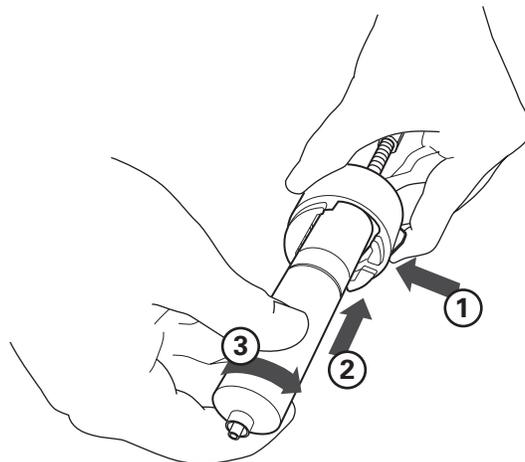

Figure 4: Align and push cartridge into the cap.
4. Press the lever and push the cartridge into the cap. Align the cartridge so that it fits fully into the recess in the cap (Figure 4).
5. Rotate the cartridge $\frac{1}{4}$ turn to secure the cartridge in the cap (Figure 4).